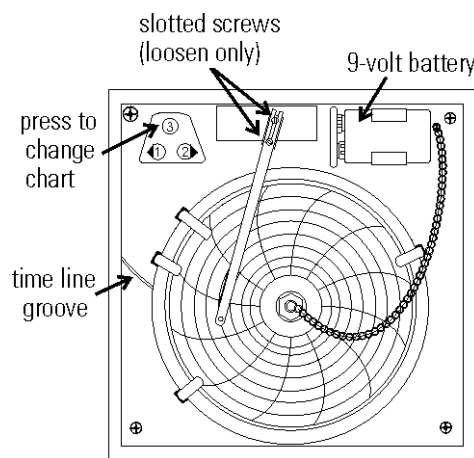

Figure 1-4. Install Battery In Recorder
To prepare the recorder for operation, open the glass door and snap the connector onto the 9V battery (Figure 1-4). If the unit is operating, the green LED lights steady. If the unit is not turned on, the LED blinks.
1. Press the Change Chart button (#3) and hold it for 1 second until the pen begins to move to the left of the chart. See Figure 1-4.